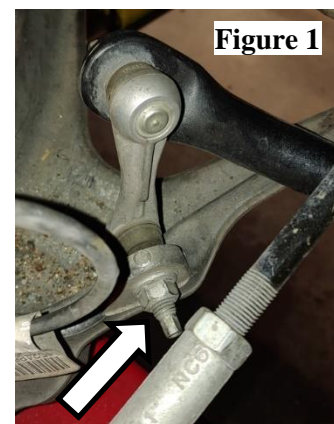

Figure 1
4. Remove the sway bar end link from the control arm. **(Figure 1)** 2002 and later cars will use an 18mm open wrench and an 18mm socket. using an 18mm wrench. Pre-2002 cars with plastic end links will use an 18mm wrench and T-45 torx bit.